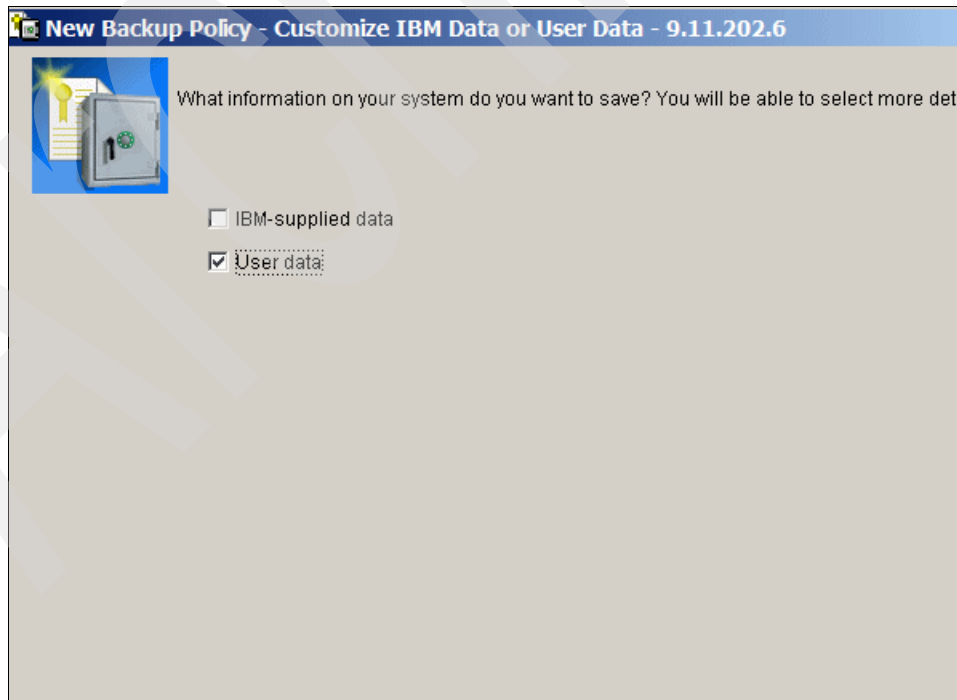

Figure 6-17 New Backup policy wizard - select type of data
6. In the next wizard window, specify which type of data is to be backed up by this backup policy. In our example we specify **User data** because we plan to back up the database library. This can be seen in Figure 6-17. After specifying the type of data, click **Next**.